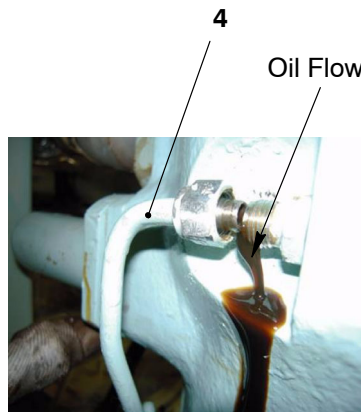

Fig. 28
Note: The oil flows through the throttle (1, Fig. 28) to the bottom housing (2) and the guide piston (3).
- 1) Remove the oil drain pipe (4) from the fuel pump.
- 3) After one minute, make sure that you can see the oil flow as shown in Fig. 28.
- 5) Make sure that the the oil flows in the inlet pipe (5).
- Note: If the oil in the inlet pipe (5) does not flow freely, it is possible that there are unwanted particles in the oil supply system. If you find particles, remove them.**
- 8) Connect the oil drain pipe (4) and (5) to the fuel pump.